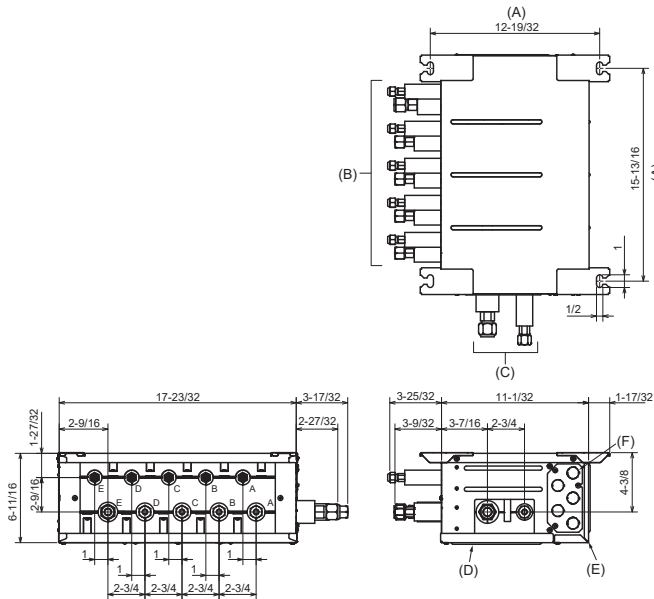

Fig. 4-3
■ PAC-LMA50BC/PAC-LMC50BC (Fig. 4-3)